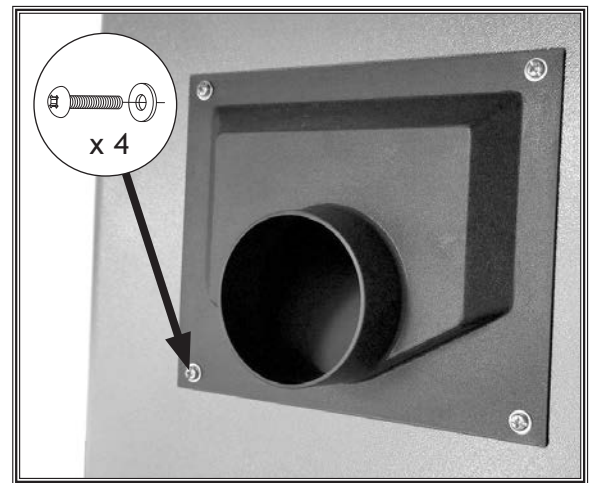

Figure 19. Dust port installed.
19. Install dust port with (4) 1/4"-20 x 1/2" Phillips head screws and (4) 1/4" flat washers (see **Figure 19**).